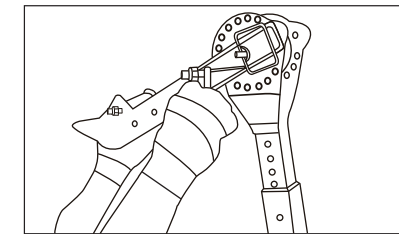

Fig 11
2. Pivot Front Extension assembly to desired angle and reinsert pin (Fig 11).